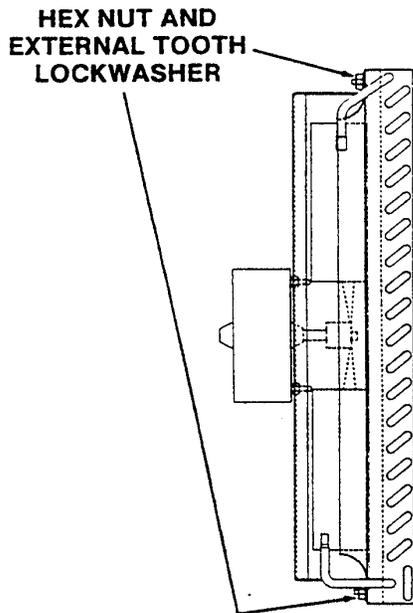

Figure 61. Fan Bracket Removal
5. Remove the four hex head nuts and washers securing the fan motor bracket to the shroud (Figure 61).